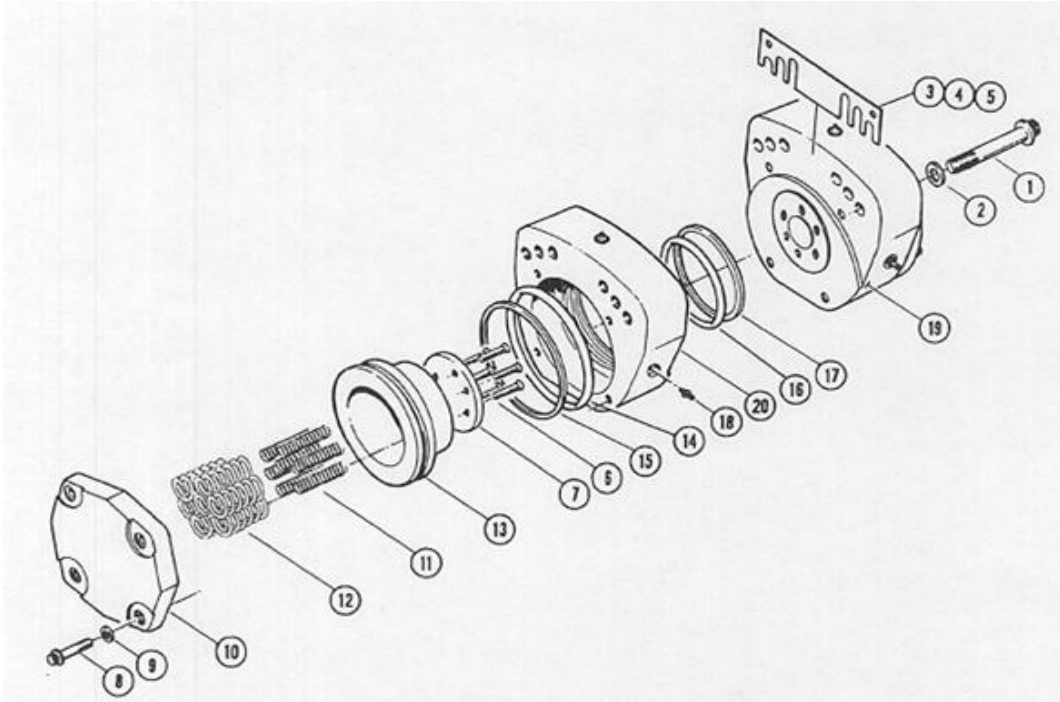

Figure 1
1. DESCRIPTION (See Figure 1 for identification of components)